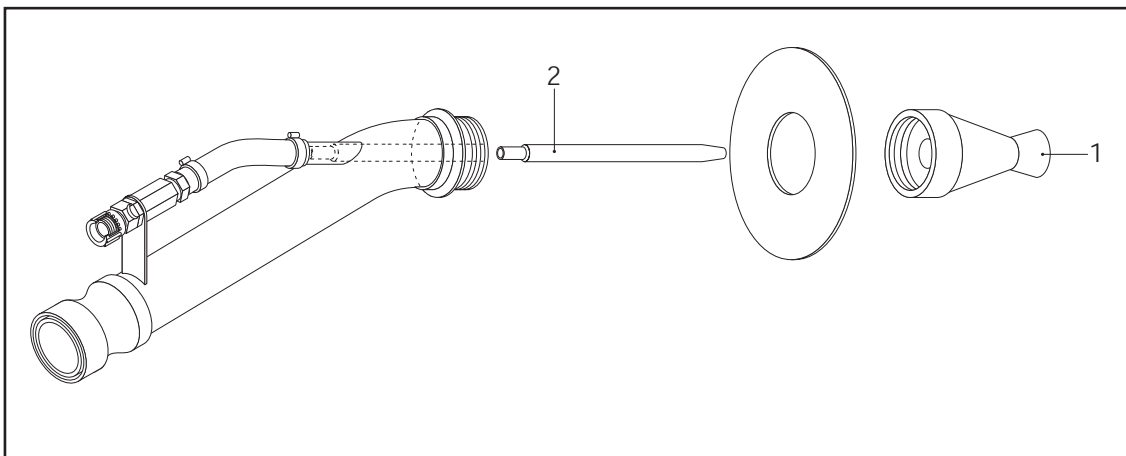

FIG.31
- Wash the gun carefully, disassembling the deflector (FIG.31-REF.1).
- Check that the hole in the air nozzle (FIG.31-REF.2) is free (clean it with iron wire if necessary).